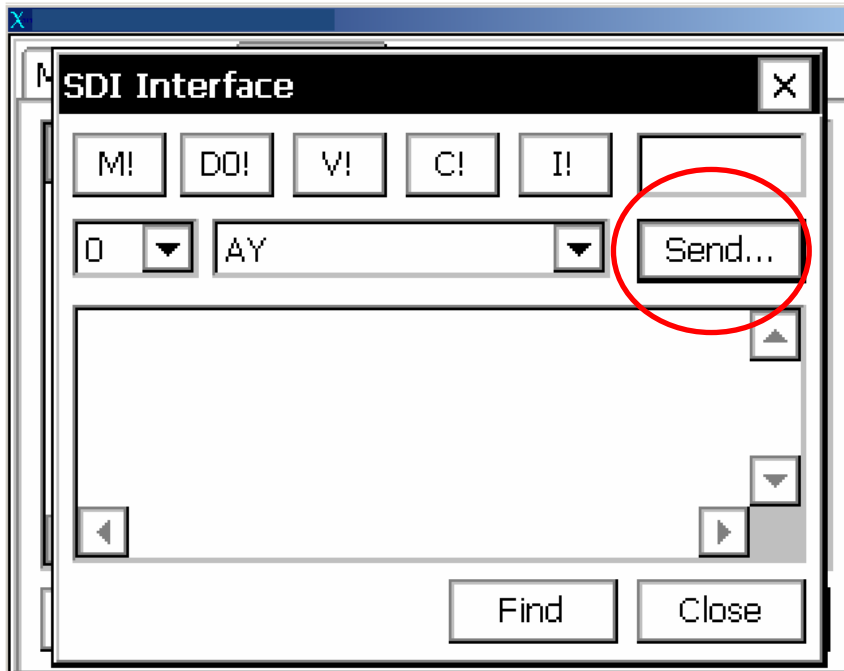

Figure 3-22. Type AY in the drop-down box.
2. Assuming the sensor's default address is **0**, select **0** in the address drop-down box, and then type **AY** in the command drop-down box (fig. 3-22). Click the **Send** button.